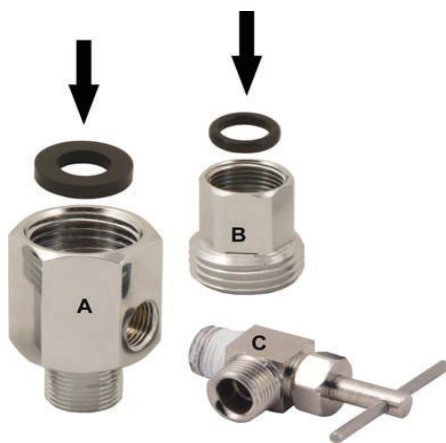

Fig. 5
2. **Feed Water Adaptor (1/2" to 3/8"):** See **Fig. 5**. The Feed Water Adaptor comes with a separate Needle Valve. The Adaptor goes inline onto your 1/2" or 3/8" cold water pipe. The Needle Valve portion screws onto the Adaptor as shown in **Fig. 5A**.